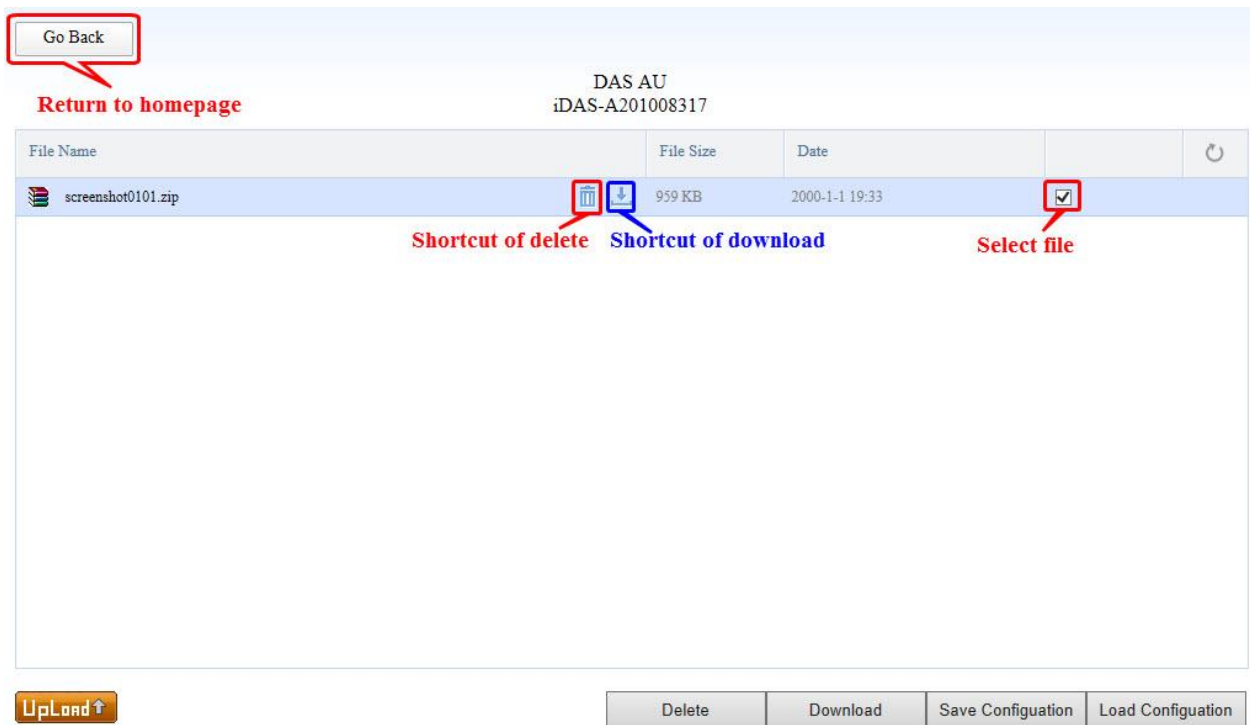

Figure 2-13 Screen Shot Download File
- e) Click the **Download** shortcut icon to download the screen shot file. Check the filename and date to ensure that the correct file has been selected. See Figure 2-13 for details.